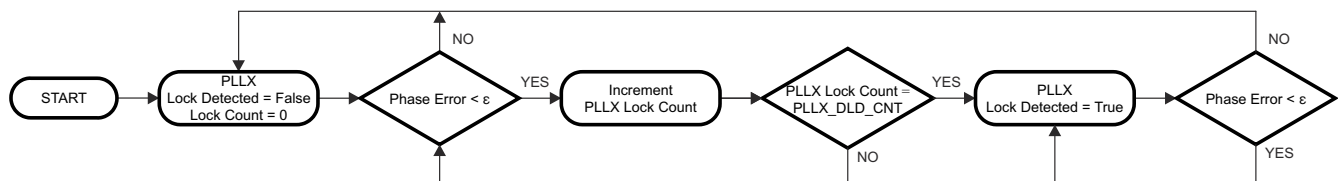

图 8-8. Digital Lock Detect Flowchart
Both PLL1 and PLL2 support digital lock detect. Digital lock detect compares the phase between the reference path (R) and the feedback path (N) of the PLL. When the time error, which is phase error, between the two signals is less than a specified window size (ϵ) a lock detect count increments. When the lock detect count reaches a user specified value, PLL1_DLD_CNT or PLL2_DLD_CNT, lock detect is asserted true. Once digital lock detect is true, a single phase comparison outside the specified window will cause digital lock detect to be asserted false. This is illustrated in 图 8-8.